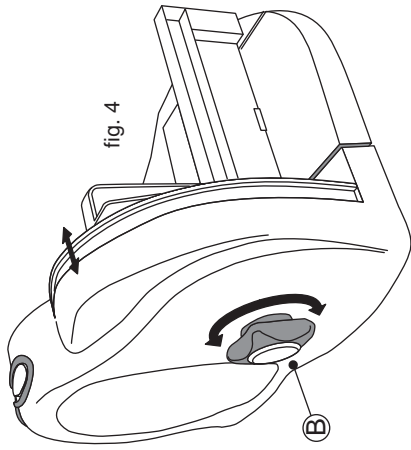

fig. 4
2. Set the Blade Adjustment Knob **B** for the thickness of the slice that you desire. Turn the Blade Adjustment Knob **B** clockwise for thicker slices and counterclockwise for thinner slices. **See fig. 4.**